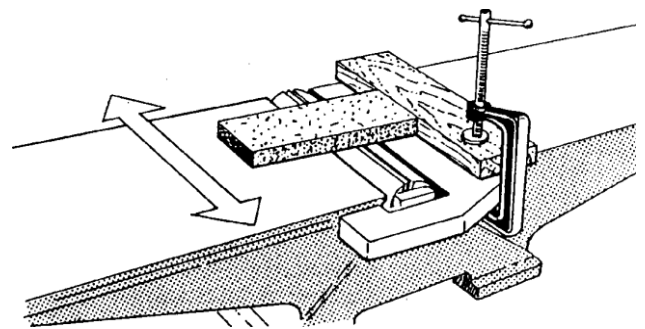

Fig. 22
4. Clamp a block of wood across the infeed table as shown in Figure 22 in order to block the end of a fine India stone or oilstone during the jointing operation. This helps to prevent kickback of the stone.